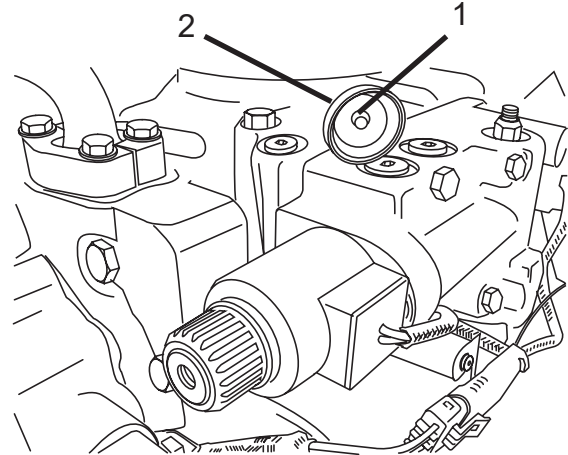

Figure 10
5. **For Traditional Controls with EP (Electric Proportional Controls) Only:** Install the pins (Figure 10, Item 1) in the override caps (Figure 10, Item 2).